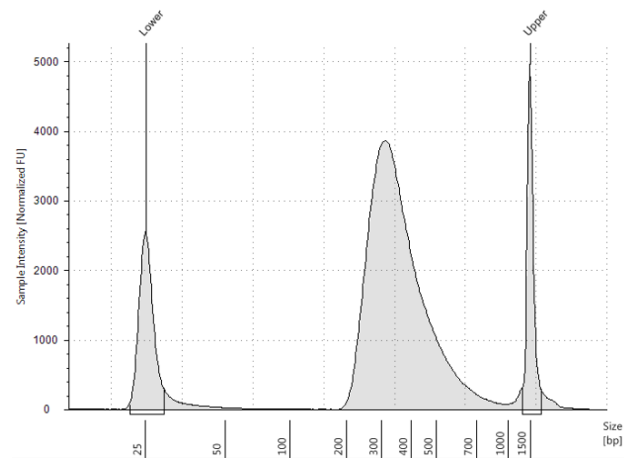
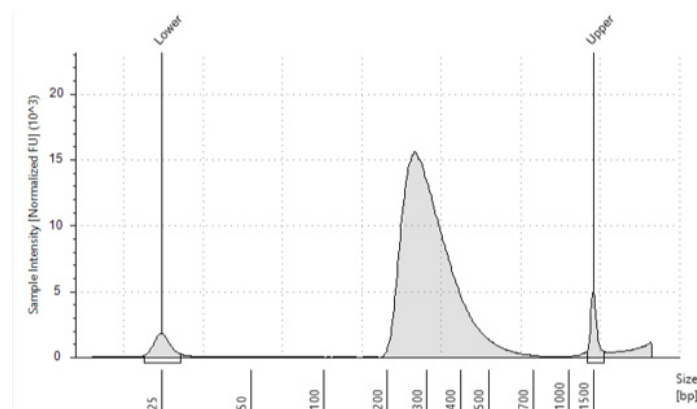
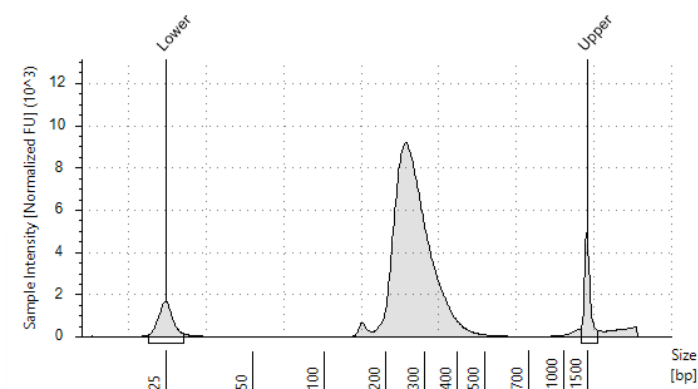

Figure 10 Pre-capture library prepared from a high-quality gDNA sample analyzed using a D1000 ScreenTape assay.
Figure 11 Pre-capture library prepared from a typical FFPE gDNA sample analyzed using a D1000 ScreenTape assay.
Figure 12 Pre-capture library prepared from a low-quality FFPE gDNA sample analyzed using a D1000 ScreenTape assay.
- 15 Verify that the electropherogram shows the expected DNA fragment size peak position (see Table 43 for guidelines). Sample electropherograms are shown in Figure 10 (library prepared from high-quality DNA), Figure 11 (library prepared from medium-quality FFPE DNA), and Figure 12 (library prepared from low-quality FFPE DNA).
The appearance of an additional low molecular weight peak indicates the presence of adaptor-dimers in the library. It is acceptable to proceed to target enrichment with library samples for which adaptor-dimers are observed in the electropherogram at low abundance, similar to that seen in the example electropherogram in Figure 12. See Troubleshooting information on page 138 for additional considerations.
Using manual preparation of the analytical sample plate, you can analyze the DNA samples on Agilent 2100 BioAnalyzer, Agilent 5200 Fragment Analyzer, or Agilent 4200/4150 TapeStation. Electropherograms obtained using one of these other analysis platforms are expected to show fragment size profiles similar to those shown for the Agilent 4200 TapeStation (see **Figure 10** through **Figure 12**). **Table 44**. Verify that the electropherogram shows the expected DNA fragment size peak position (see **Table 43** for guidelines). **Table 44** includes links to assay instruction.